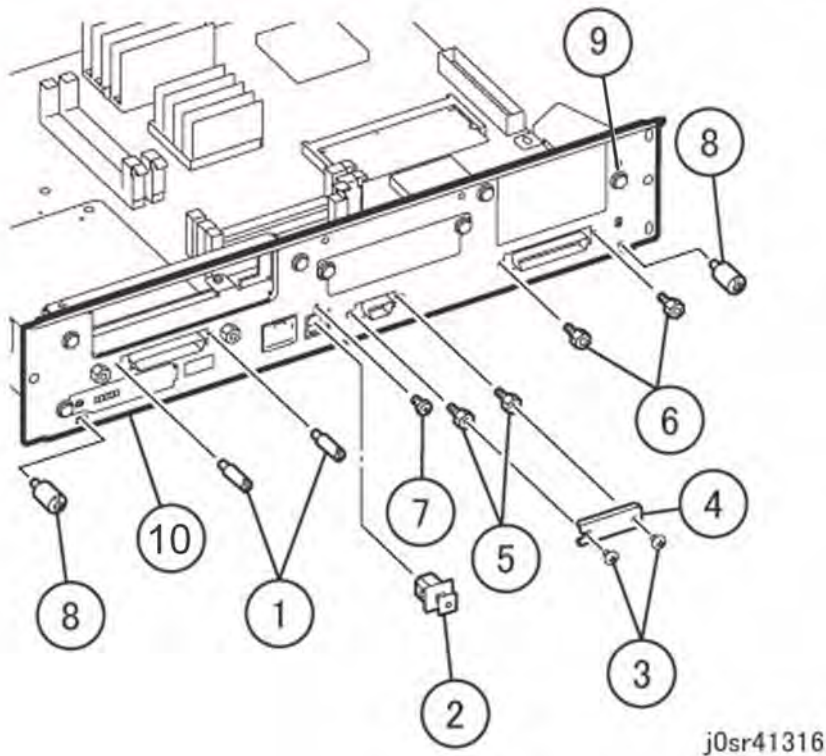

Figure 5 Removing the ESS Box Panel
7. Remove the ESS Box Panel (Figure 5).